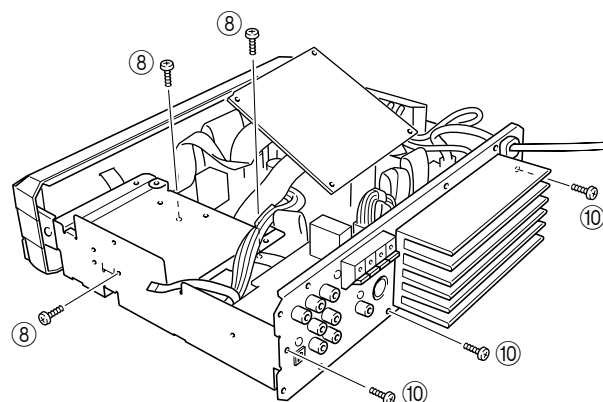
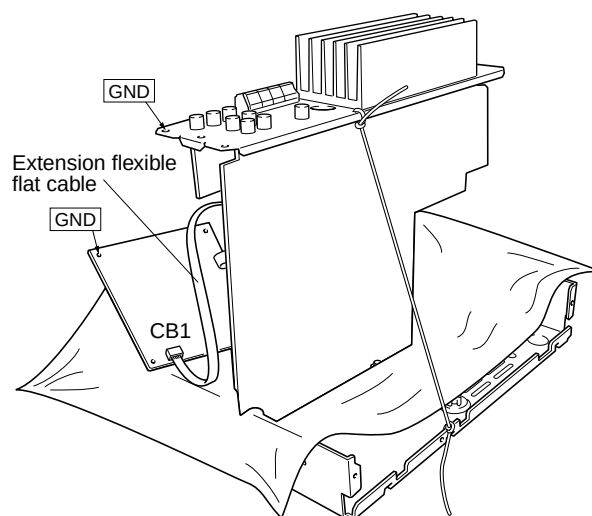

Fig. 5
Fig. 7
- Remove 3 screws (⑧). (Fig. 5)
- Remove 3 screws (⑩). (Fig. 5)
- Remove MAIN P.C.B. (1) from the main chassis.
- Disconnect the flexible flat cable (CB305) from MAIN P.C.B. (1).
- Connect CB305 of MAIN P.C.B. (1) and CB1 of DIGITAL P.C.B. (1) by using an extension cable (5P:MF105250).
- Place MAIN P.C.B. (1) upright with a cloth spread on the main chassis. (Fig. 7)